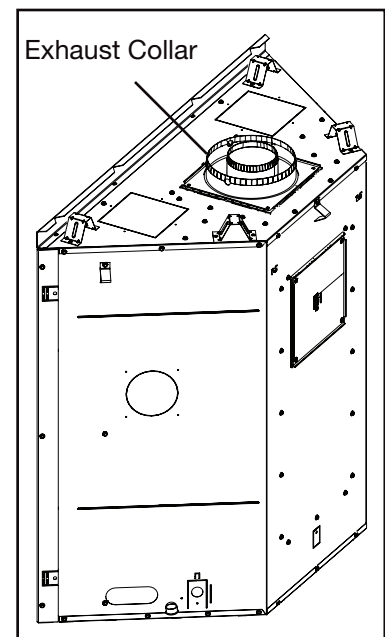

Fig. 3
- F. From inside the firebox, install the 4" (101.6mm) exhaust collar with gasket up through the top of the firebox, and secure with the the 4 hex head 3/4" black screws supplied in the manual baggie (**Fig. 3**).